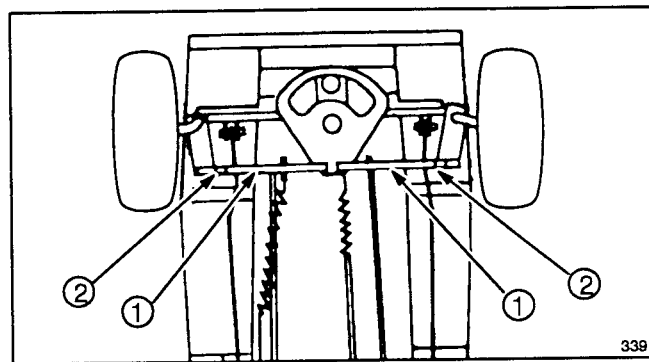

Figure 28
1. To align the front wheels, loosen the jam nut and turn the tie rod until the centerline distance across the front of the wheels (d') is .06 inch (1.5 mm) to 0.25 inch (6.3 mm) less than the centerline distance across the rear of the front wheels (d'') (Figs. 28 and 29).